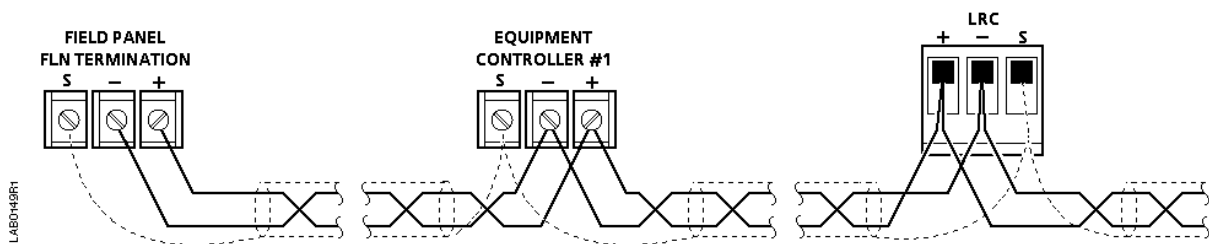

Figure 4. FLN Trunk Wiring.
2. Connect the FLN trunk wiring (Figure 4). After all controllers are connected to the FLN reconnect the FLN trunk to the field panel.